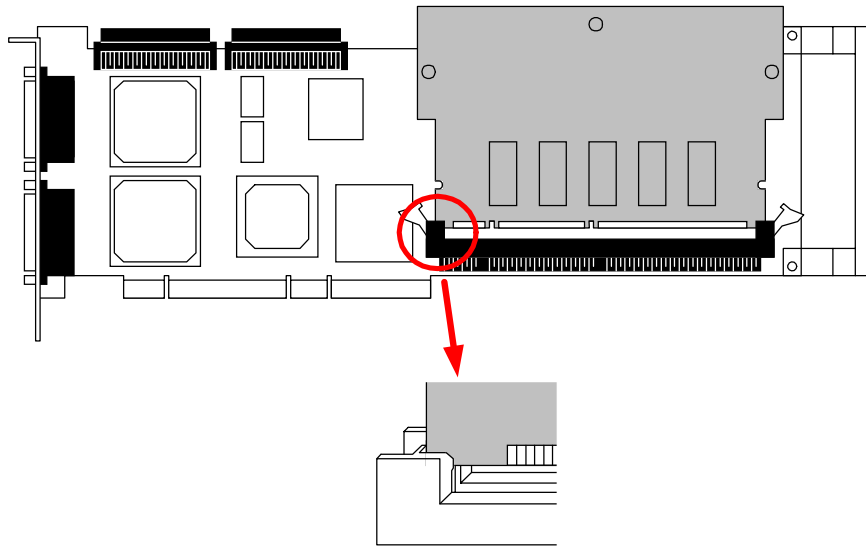

Figure 3-4
4. Align both bottom corners of the BDIMM card into the memory ejector sockets. See Figure 3-4 for an enlargement of the left bottom corner.